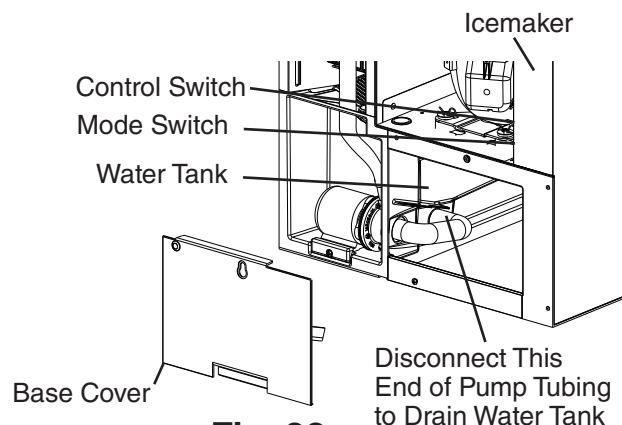

Fig. 22
- 3) Remove the base cover, then disconnect one end of the pump tubing to drain the water tank. See Fig. 22. After the water tank has drained, reconnect the pump tubing.